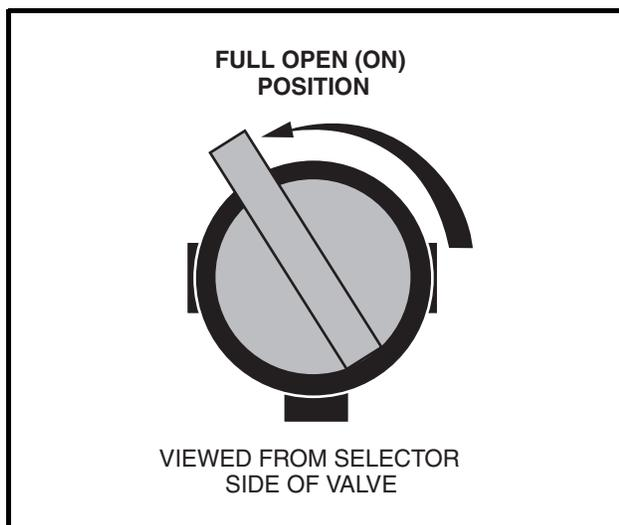
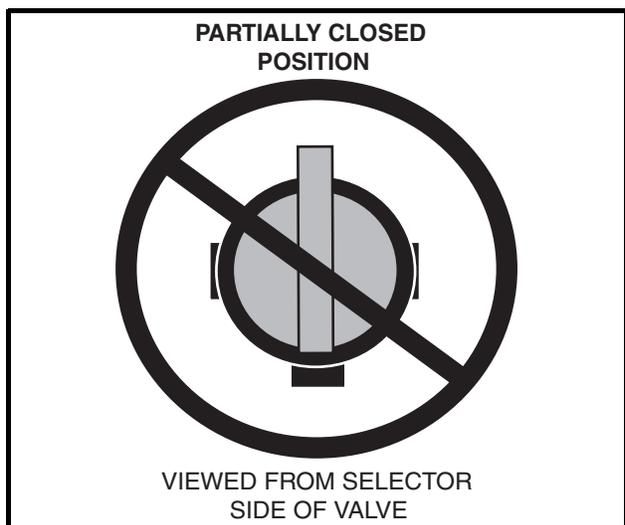

Figure 14-17 Open Fuel Shut-off Valve
Figure 14-18 Incorrect Fuel Shut-off Valve
6. Turn the fuel shut-off valve on top of the fuel tank to the open position (**Figure 14-17, Page 14-26**).
11. Check to be sure the fuel shut-off valve on top of the fuel tank is in the open (ON) position **(Figure 14-17, Page 14-26)**.
The valve's open position differs from standard valve configurations. For the valve to be fully open, it must be turned approximately 120° from the closed (OFF) position (until it cannot be turned any further) (**Figure 14-17, Page 14-26**). If the valve becomes partially closed (**Figure 14-18, Page 14-26**), the engine will not run properly due to fuel starvation.